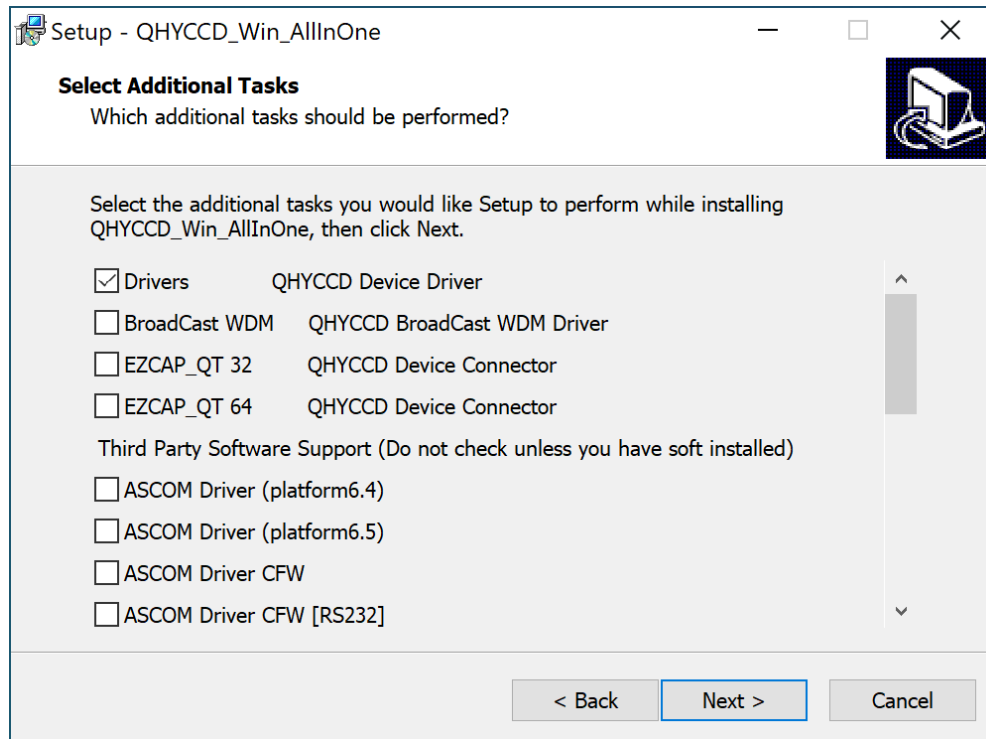

Figure 5: The device installation wizard. Select Drivers only and proceed with the installation.
4. On the install options page you only need to select the driver, as shown in Figure 5.